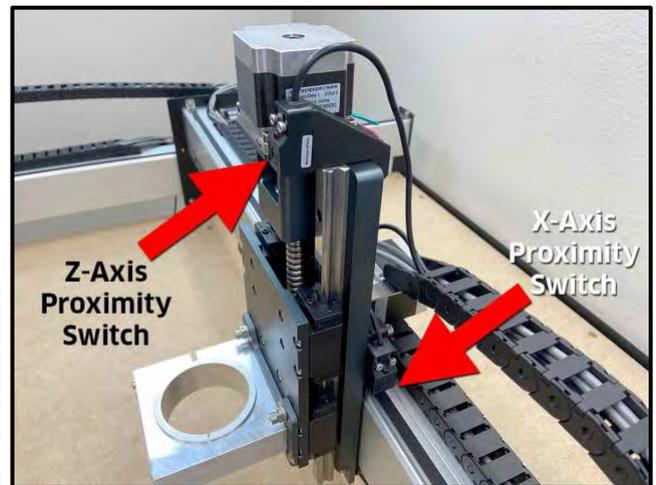
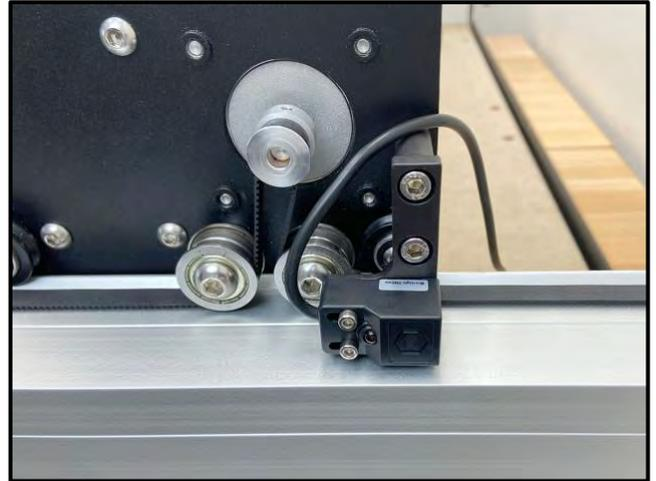

Figure 37
Figure 38
1. Attach the X-Axis proximity switch to the X-Axis proximity switch mount installed on the rear of the HDZ. See **Fig. 37**.
- d. Use a 2.5mm hex key and two (2) M3×18mm SHCS to secure the proximity switch.
2. Attach the Z-Axis proximity switch to the Z-Axis switch mount installed at the top of the HDZ. See **Fig. 37**.
- d. Use a 2.5mm hex key and two (2) M3×18mm SHCS to secure.
3. Attach Y-Axis proximity switch to the mount on the outside of the Y2-carriage. See **Fig. 38**.